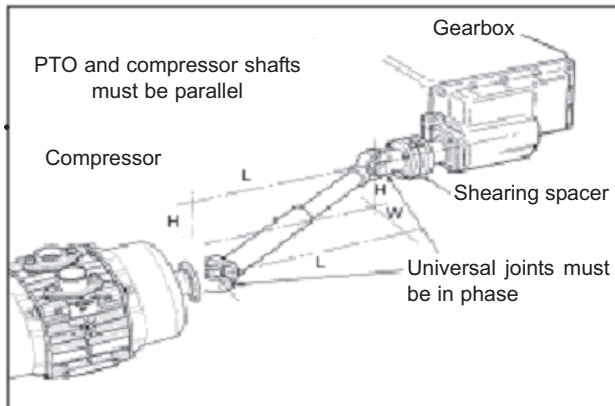

Figure 5
3.3 Drive shaft - See Figure 5